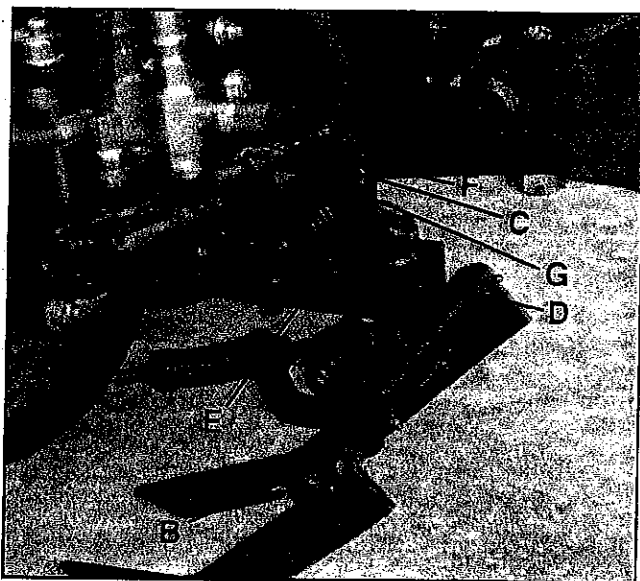

FIGURE 58 - ROW FINDER MOUNTING/CONTROL VALVE CENTERING
Use four (4) 1/2" x 1-3/4" hex bolts (A), four (4) 1/2" lock washers and four (4) 1/2" nuts to mount row finder assembly to mounting bracket on first strut to right-hand side of hitch (see figure 58).
(Refers to Figure 58) The horizontal shaft (B) in row finder must be parallel with the front of the harvester frame to function accurately. Remove pin (C) and loosen nuts (D) slide plate (E) until shaft is parallel with frame. Tighten nuts.
To change the height of the row finder more than 1", remove the four (4) hex bolts (A) (see Figure 58) attaching the row finder assembly to the support plate. Bolt the row finder to the holes which provide the desired operating height.